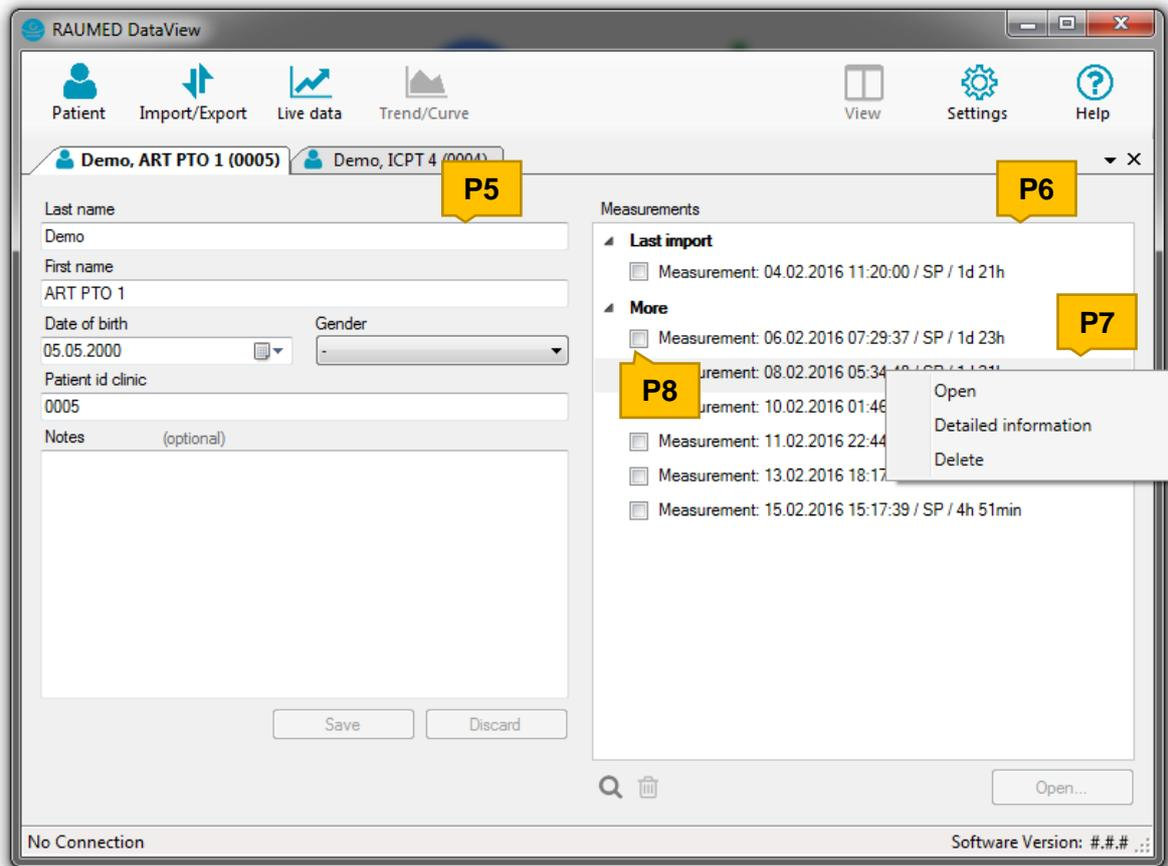

Figure 7 Patient information
- b) Via the list of measurements from the patient details by right-clicking on a measurement > Export (see Figure 7, **(P7)**)